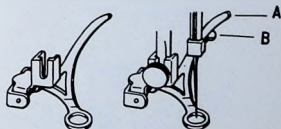

Fig 14. Darning Foot
DARNING—See Fig. 14
1. Attach darning foot, Fig. 14, with arm (A) at the back of needle clamp (B).